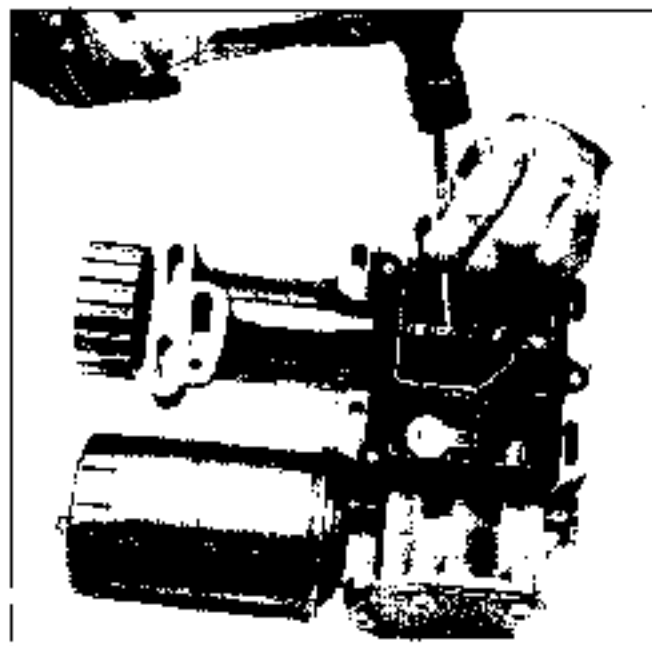

Fig. 6-40 Removing Eccentric and Distributor Drive Gear Pin
3. Remove fuel pump eccentric and distributor drive gear retaining pin (Fig. 6-40).